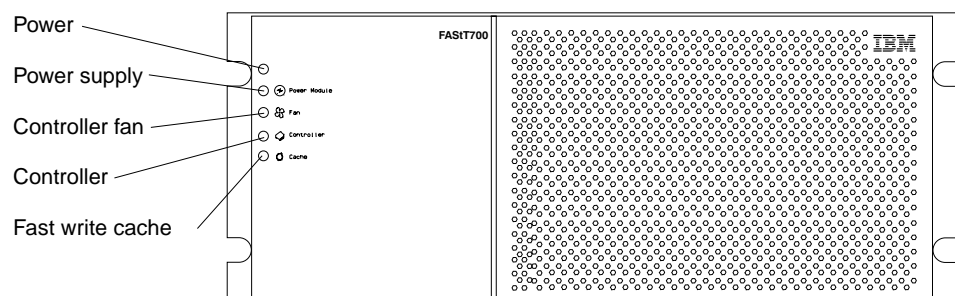

Figure 34. Indicator lights on the FAST700 Storage Server bezel
5. Using Figure 34 as a guide, check the controller indicator lights.